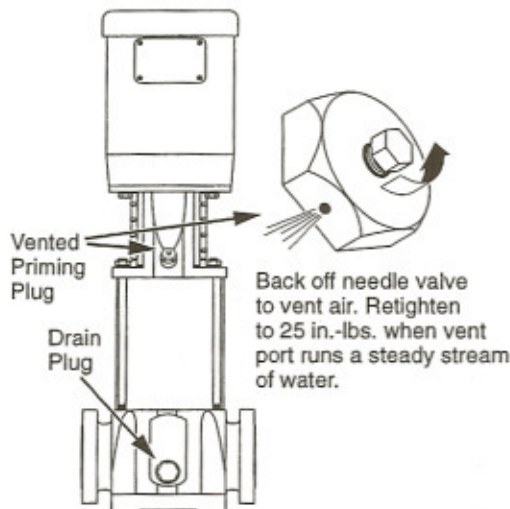

FIGURE 7 - Priming and Drain Plugs
1. Close the discharge isolating valve and loosen the needle valve in the vented priming plug in the pump head (Figure 7). Do not remove the needle valve.
NPSHR = 10' (See Figure 7)